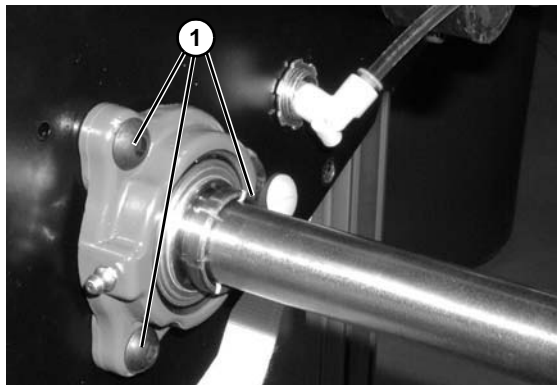

Figure 128
6. Tighten three (3) mounting screws (**Figure 128, item 1**) to 200 in-lbs (22.5 N-m).